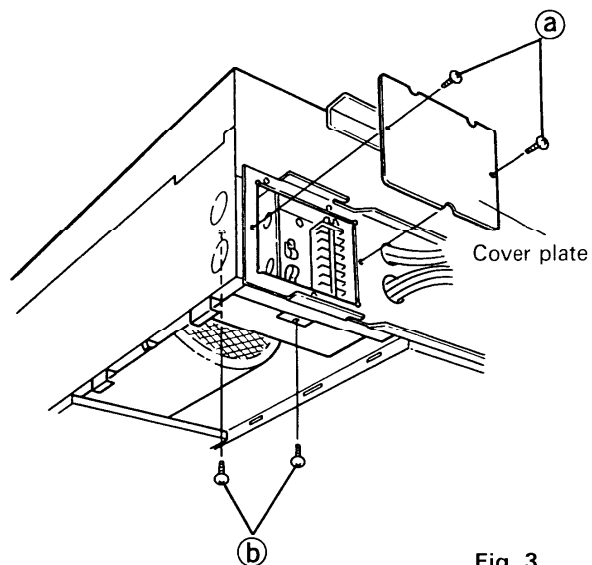

Fig. 3
- (1) Remove the two screws (a) of the electrical component box, and remove the cover plate. Fig. 3
- (3) When the three screws ⑤ are removed, the electrical component box can be pulled out to the lower side of the unit. (The one other screw ⑤ is at the rear between box and casing.) Fig.3